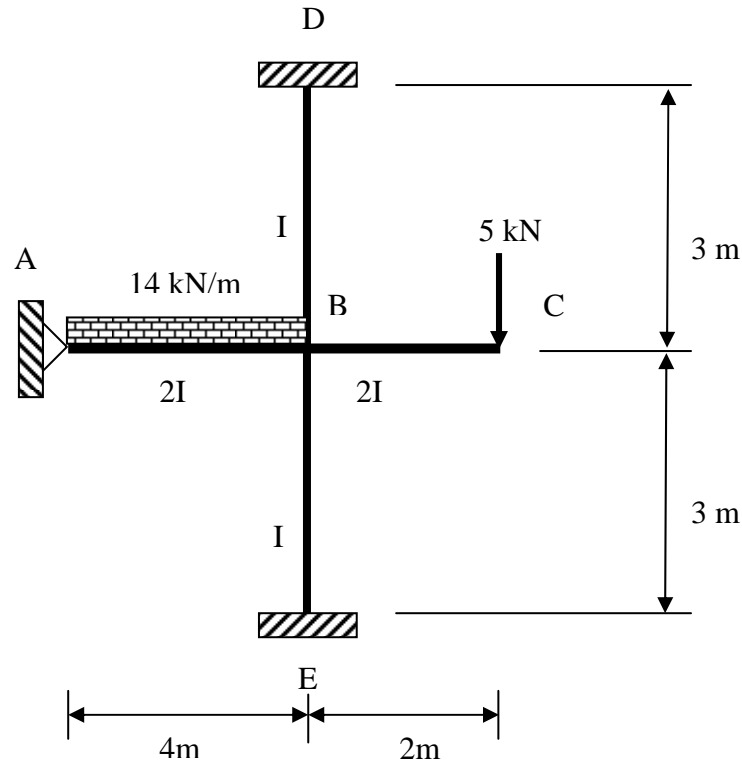

Figure 4
4. a) Figure 4 shows a frame carrying a uniformly distributed load of 14 kN/m on span AB and a point load of 5 kN at point C. Support D and E are fixed. The value of I each member is shown labeled in Figure 4. Determine the internal moments at the joints of the frame by using the slope deflection method. Hence sketch the deflected shape and bending moment diagram of the frame.